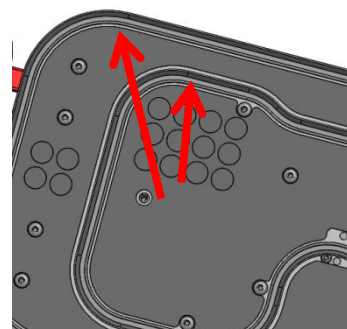

Figure: 6
- Check the sealing rubber of the suction cup for damage (see figure 6). Replace damaged rubbers.